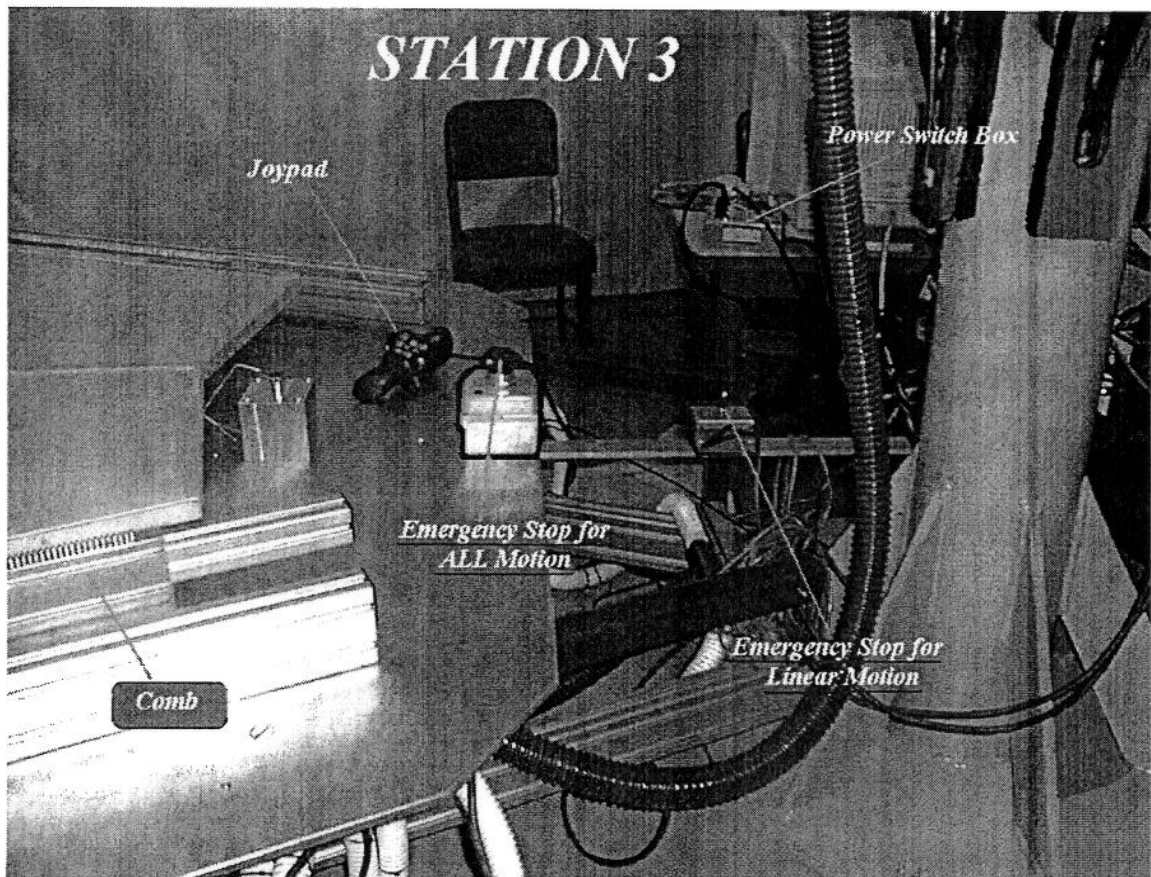

Figure 2 (Station 3, two emergency stops shown)
- 6.1. There is a gray box with a large red push-button on top, set on the table just in front of the tower (figure 2). If it is necessary to stop motion immediately, this button may be pushed in order to cut power to the motor.
- 6.2. There are also two smaller metal boxes with red buttons that can be pressed to stop motion of the carriage along the boom. These are located on the farthest end of the boom, and between the tower and the gray power cutoff box (figures 2 and 3).